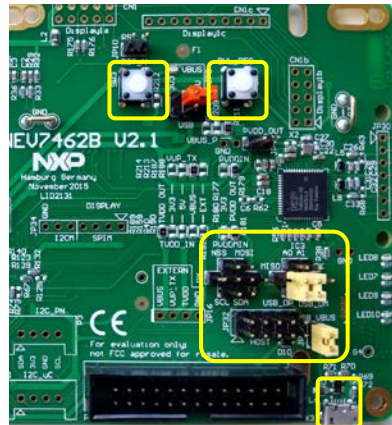

Fig 79. PN7462AU as USB mass storage device
1. Ensure that "HIF selection" is USB, see Fig 79 (to be skipped with PNEV7462C board)